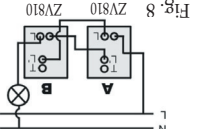

Fig. 8
- To replace both 2 way switches in a two way circuit. (See Fig. 8)